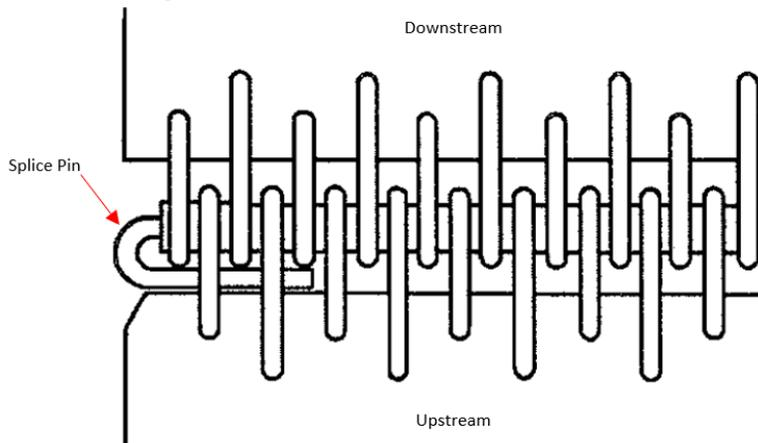

Figure 11: Belt Lacing
- c. Fold the end of the pin over and tuck it into the lacing on the upstream side of the belt. Note that the belt moves opposite of product flow, so the upstream side of the belt is towards the discharge end of the conveyor, if the belt splice is on top. See Figure 11: Belt Lacing.